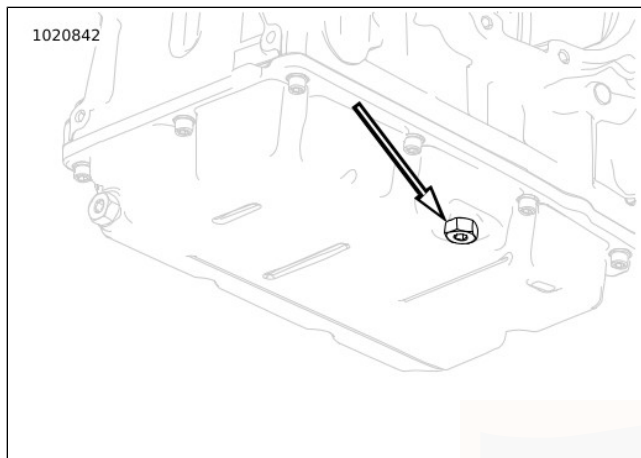

Figure 58. Transmission Drain Plug
2. See Figure 58. Remove transmission drain plug. Drain transmission.